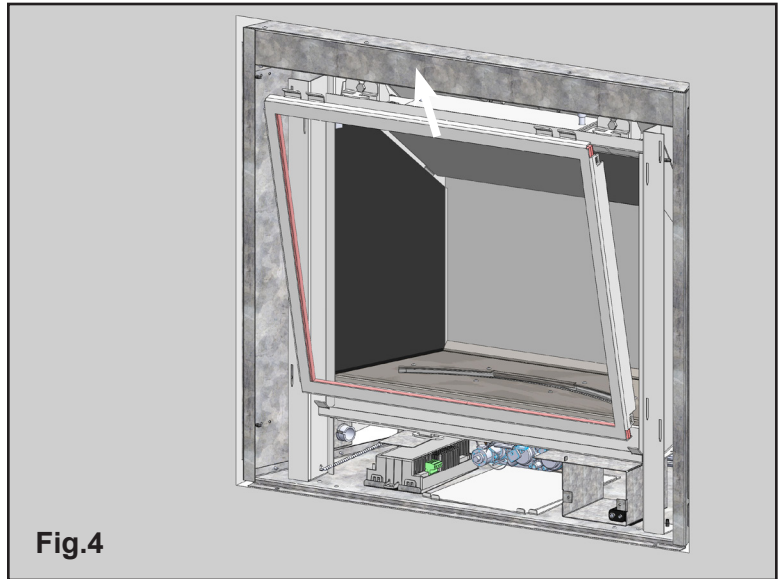

Fig.4
- Carefully slide the door glass assembly up and out of the unit.(**Fig.4**)